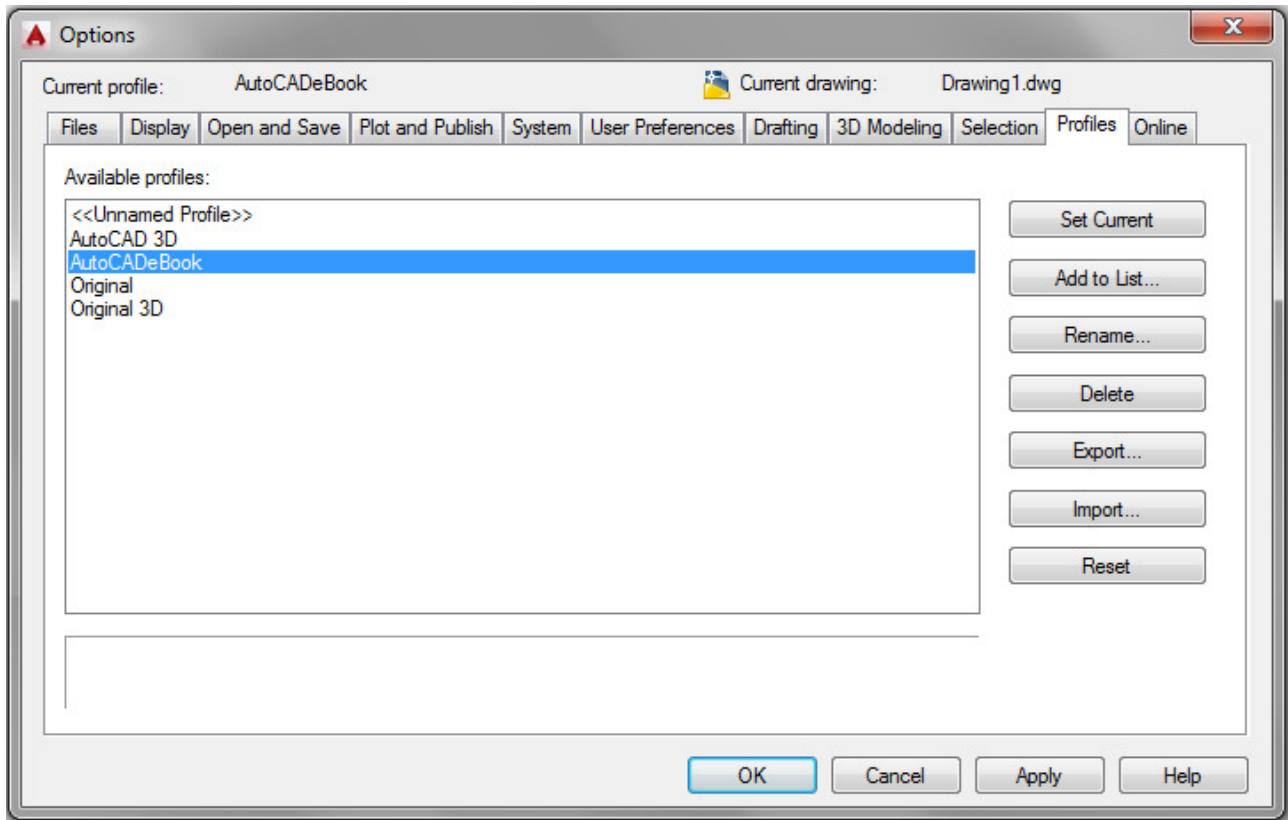

Figure Step 4
Step 4 Using what you learned in Step 3, create a new profile named: AutoCAD 3D. (Figure Step 4)